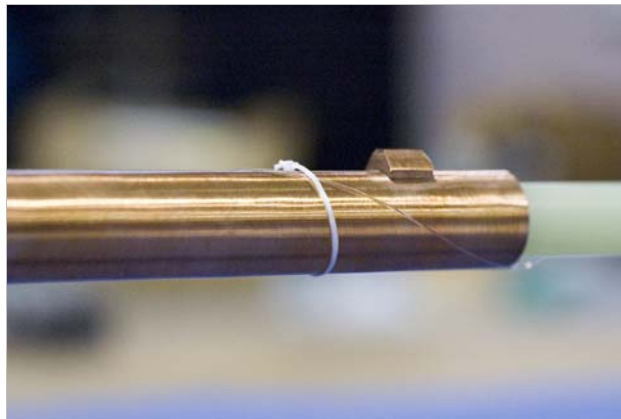

FIGURE 5-26 *Tie the optical fiber to the arm*
13. Using unwaxed dental floss, tie the fiber to the arm to keep it from unraveling during use (FIGURE 5-26).